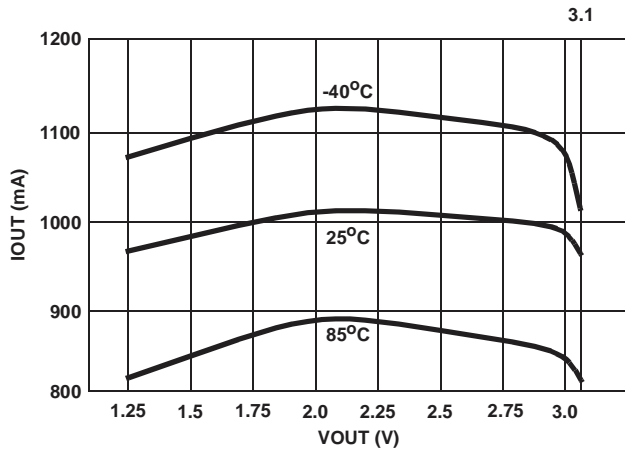
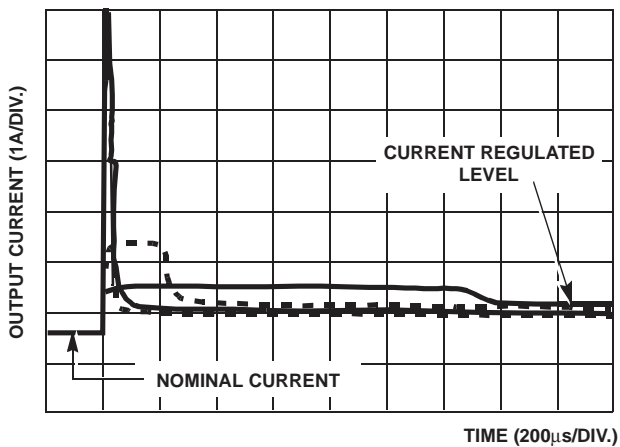
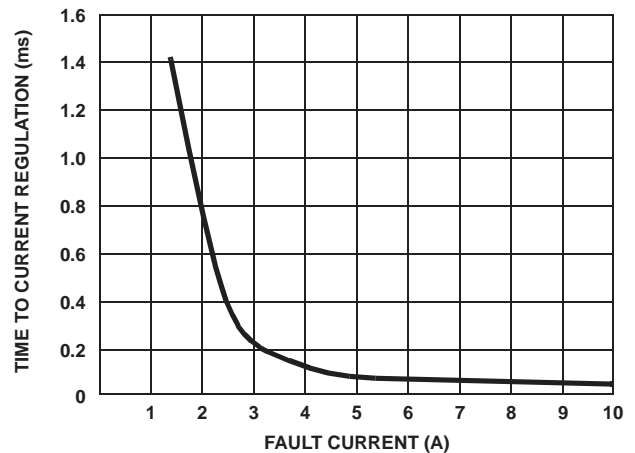

FIGURE 4. CURRENT REGULATION vs VOUT ($V_{IN} = 3.3V$)
FIGURE 6. OC TO CR SETTLING TIME WAVEFORMS
FIGURE 7. CR SETTLING TIME vs FAULT CURRENT
The ISL6436 has integrated current sensing on the power MOSFET that allows for rapid control of OC events. Once an OC is detected the ISL6436 goes into its current regulation (CR) control mode. The ISL6436 CR level is set to a nominal 1A. This current regulation is $\pm 25\%$ over the full operating temperature and voltage bias range. See Figures 4 and 5 for illustrative curves. The speed of this control is inversely related to the magnitude of the OC fault. Thus a hard over current is more quickly controlled than a marginal OC condition. See Figure 6 for waveforms illustrating this and Figure 7 for an accompanying graph.